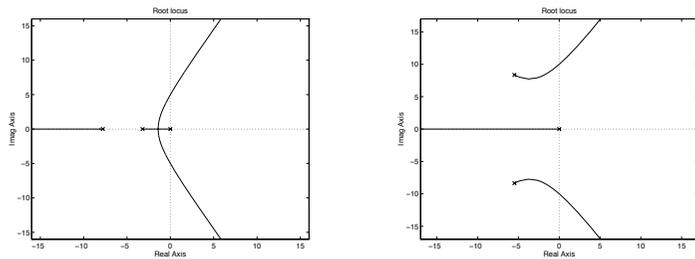

Figure 3.8a
- 3.8 a) Starting points:  $s = -5.5 \pm \sqrt{5.5^2 - 10 - K_1}$ . The starting points are all real for  $K_1 \leq 20.25$ , while we have complex starting points for  $K_1 > 20.25$ . The two principal root loci are shown in Figure 3.8a. The system is asymptotically stable for  $0 < K_2 < 11K_1 + 110$ .